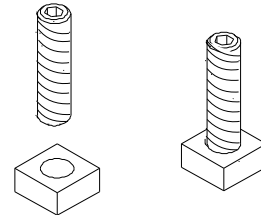

Figure 25.2
8. Thread Allen bolts through nuts until flush (**Figure 25.2**).